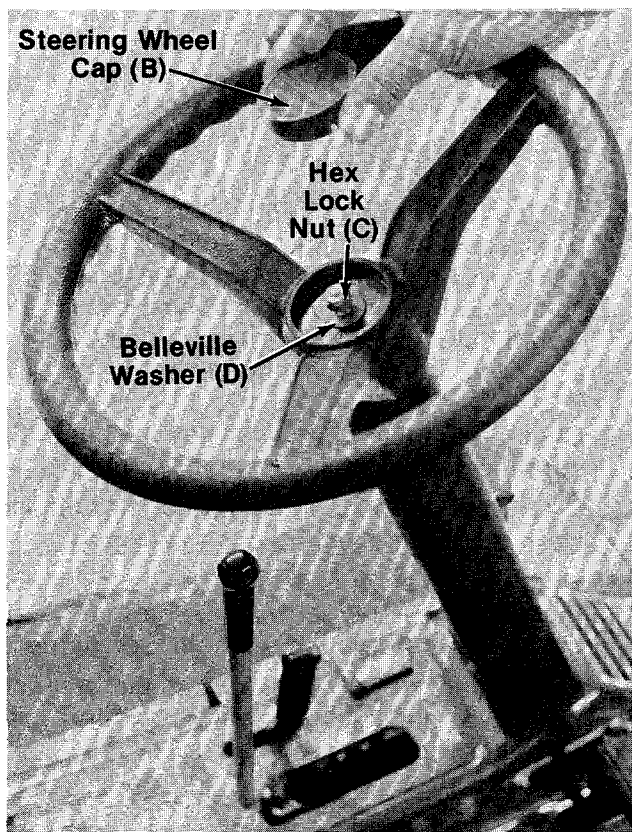

FIGURE 7.
7. Place the steering wheel on the tubing assembly and fasten with belleville washer (D) and hex lock nut (C). See figure 7.
8. Place the steering wheel cap (B) on by hand. See figure 7.